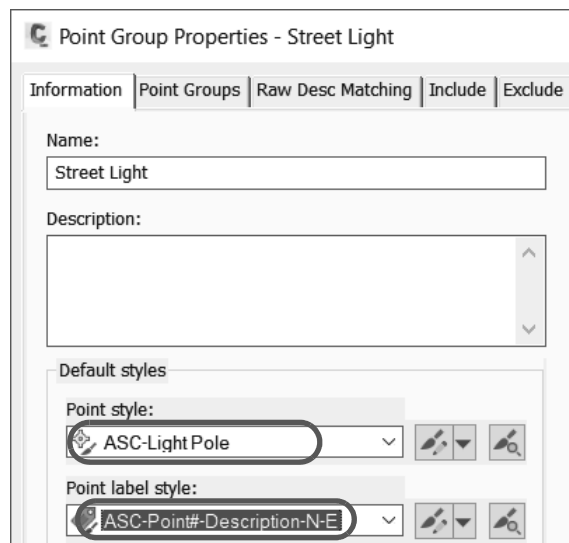

Figure 2–37
3. In the *Information* tab, expand the Point Style drop-down list and select **ASC-Light Pole**. Then expand the Point label style drop-down list and select **ASC-Point#-Description-N-E**, as shown in Figure 2–37.